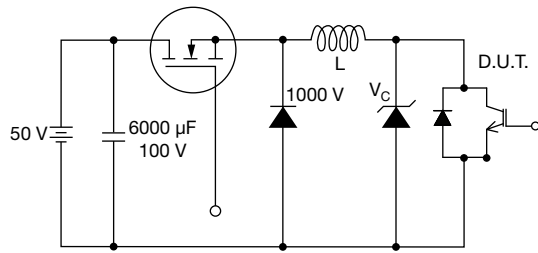

Fig. 19 - Clamped Inductive Load Test Circuit
(2) $V_{CC} = 80\% (V_{CES})$, $V_{GE} = 20\text{ V}$, $L = 10\text{ }\mu\text{H}$, $R_G = 23\text{ }\Omega$ (see fig. 19)